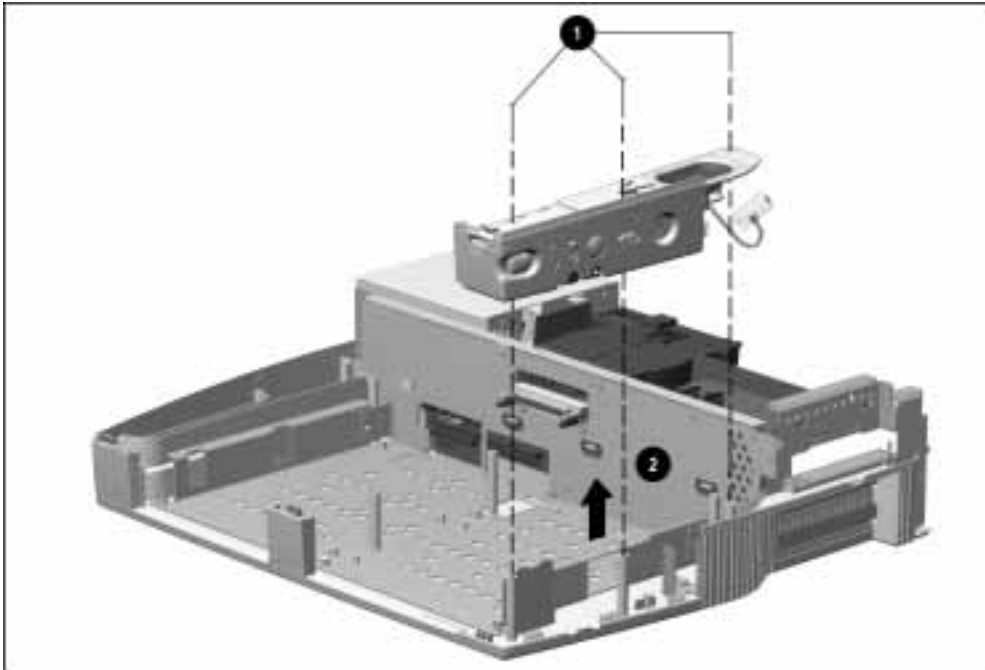

Figure 5-39. Removing the Control Panel Assembly
7. Remove the three screws ❶ securing the control panel assembly to the base assembly (Figure 5-39).
8. Lift the control panel assembly and control panel cable ❷ from the base assembly.